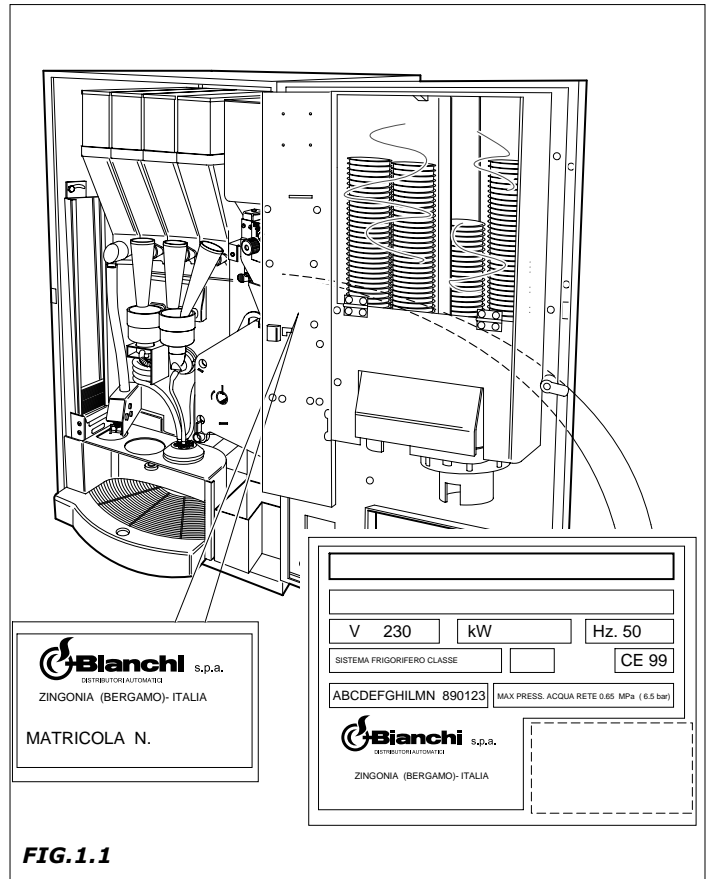

FIG.1.1
- The data registered on the serial number label (Fig.1.1)